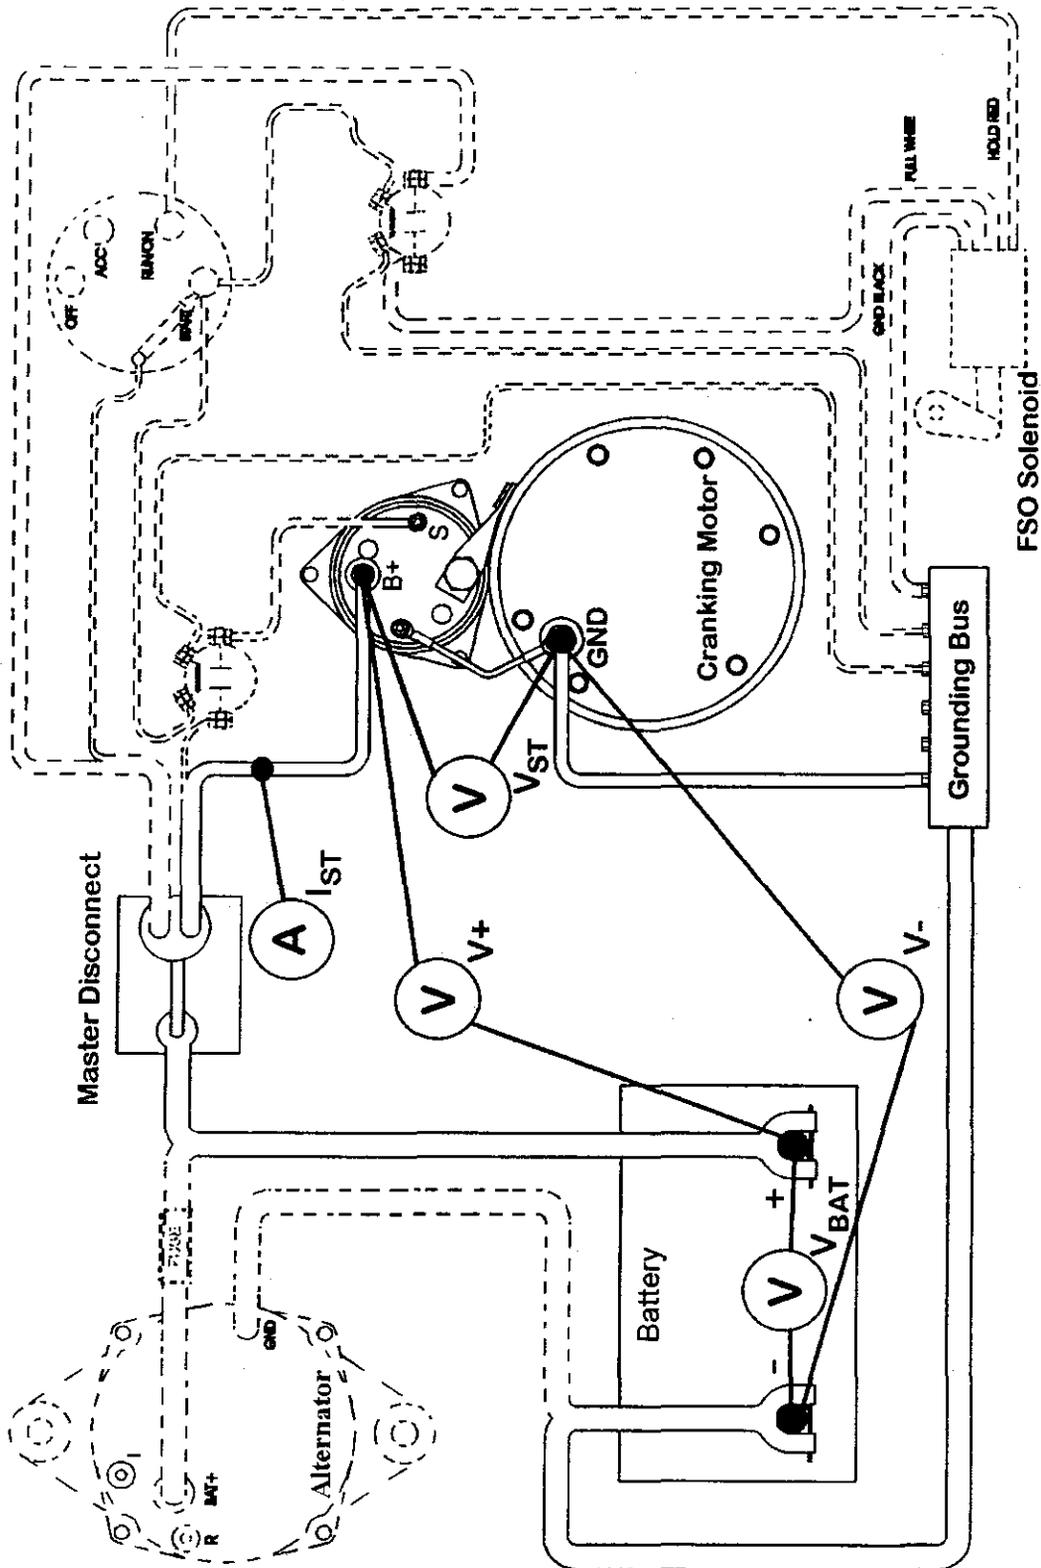

Figure 1: Cranking System 'Where to Measure'
1. Instrument a means to measure starter motor current (I_{ST}) during cranking (see Figure 1). The use of a clamp on current probe is recommended.
2. Instrument a means to measure battery voltage during cranking (see Figure 1). If using a multimeter, extension leads may be necessary for safety reasons. Battery voltage should be measured at the battery terminals that are furthest from the starter.
3. Instrument a means to measure starter voltage during cranking (see Figure 1). Extension leads may be necessary if the engine compartment poses a safety hazard. Starter voltage should be measured from the starter B+ terminal to starter ground point. The ground point is the starter ground lug, if present, or the point where the battery negative cable connects to the starter. If there is no connection from the battery negative terminal to the starter for grounding, the measurement point for the ground side should be a starter mounting bolt.
4. Instrument a means to measure cranking motor positive cable voltage drop (see Figure 1). The measurement points for this should be the battery positive terminal and the starter B+ terminal. Extension leads may be necessary if the starter is far from the batteries.
5. Instrument a means to measure cranking motor ground circuit voltage drop (see Figure 1). The measurement points for this should be the cranking motor ground point (same point used for the cranking motor voltage measurement) and the battery negative terminal. Extension leads may be necessary if the starter is far from the batteries.